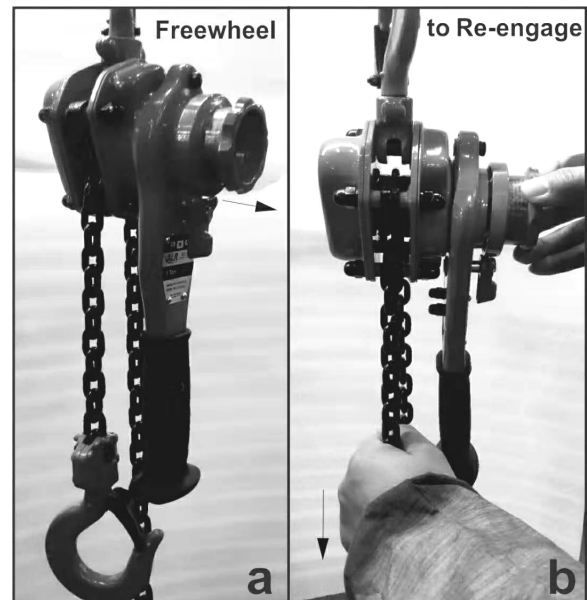

Figure 6
2. Place the selector switch on the handle in the center neutral position, and pull out on the Hand Wheel #5 (Figure 6). This will allow "free-wheel" mode. Pull the load chain by hand to position the bottom hook.
4. Rotate the Hand Wheel #5 clockwise while simultaneously pulling down on the load chain, as shown in Figure 6. The Hand Wheel #5 will snap back into place, re-engaging the gear.